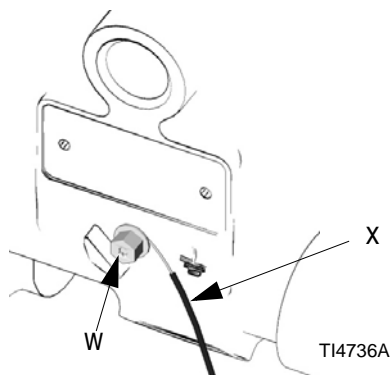

FIG. 2: Ground Wire Connection
- *Pump:* Connect a ground wire and clamp as shown in FIG. 2. Loosen the grounding screw (W). Insert one end of a 12 ga (1.5 mm²) minimum ground wire (X) behind the grounding screw and tighten the screw securely. Connect the clamp end of the ground wire to a true earth ground. To order a ground wire and clamp, order part number 222011.